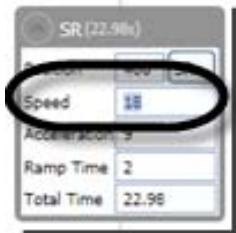

Figure 220
1. Select the motor you wish to update in the **Cue Grid** and select the **Speed** value for the applicable motor movement (Figure 220).